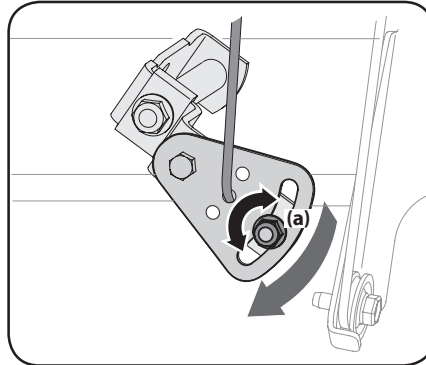

Figure 4-9
2. Loosen hex nut (a) on shift cable index bracket. See Figure 4-9.